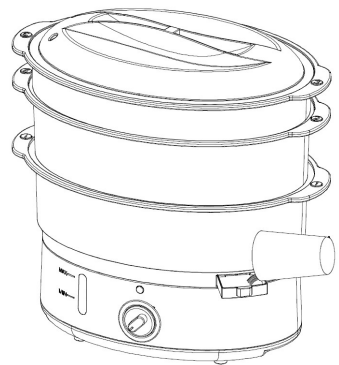

Fig. 8
9. Should it be necessary to top up the water whilst the steamer is in operation, pull open the refill point and add water to the reservoir via the refill point in the edge of the drip tray (Fig. 8). The water level can be seen through the water gauge.